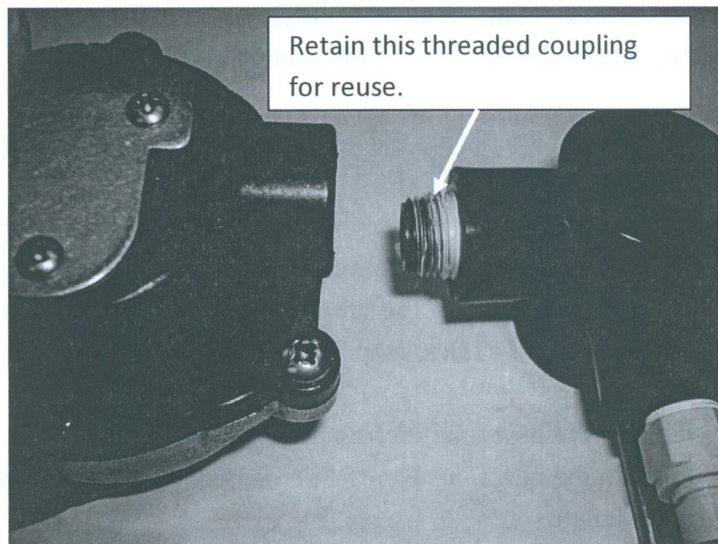

Fig 27
- Rotate the three way valve counter clockwise off the top of the pump head. There is a threaded coupling between the pump head and the three way valve that must be retained for use on the new pump head. Remove the coupling from the bottom of the pump head for reuse on the replacement pump head. Discard the pump head. Refer to figure 27.